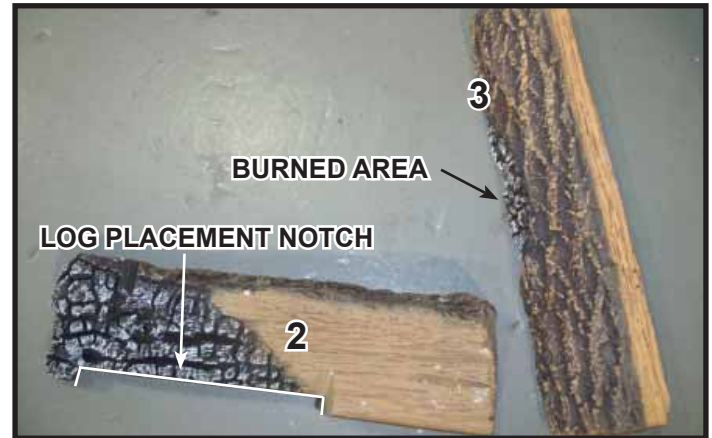
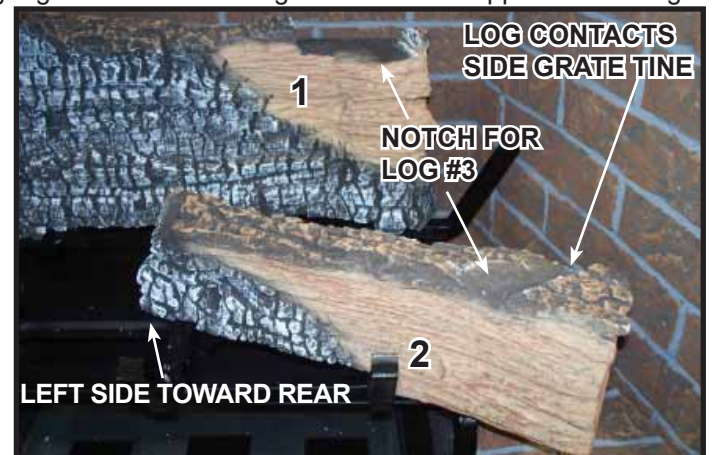
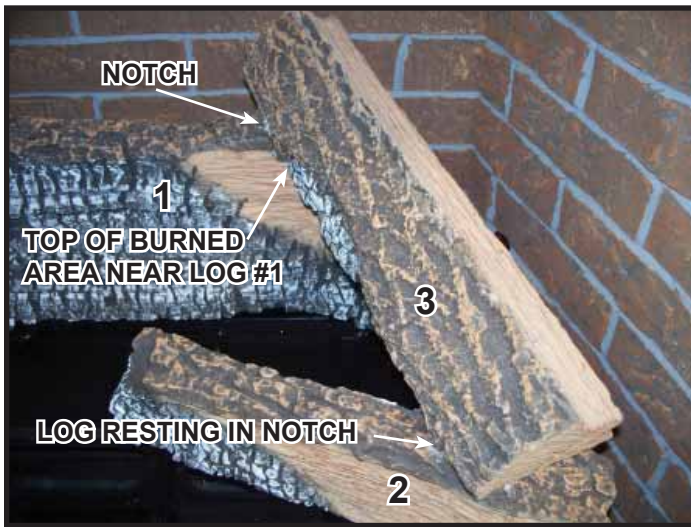

Figure 4.
Figure 5.
Figure 6.
**Log #2 (2280-702 for TRUE-36, 2281-702 for TRUE-42):** Locate log placement notch on the bottom of Log #2. See Figure 4. Mate notch on the bottom of Log #2 with the center and right grate tines. Slide log toward rear of appliance until right end contacts the side grate tine. See Figure 5.
**Log #2 (TRUE-36):** Log #2 will be about 1 inch from the back of the center grate tine when properly placed. See Figure 5.
**Log #2 (TRUE-42):** Log #2 will contact center log placement tab on center grate tine. See Figure 5.
**Log #3 (2281-703):** Locate log placement notches for Log #3. See Figure 5. Place Log #3 onto notches so that the bottom of the log rests in the notch on log #2 and the top rests in the left hand side of the notch on Log #1. The top of the burned area on Log #3 will be close to Log #1 when properly positioned. See Figure 6.